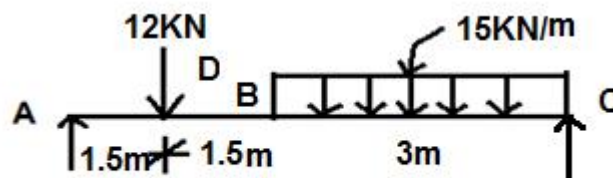

Fig. 3 Simply Supported Beam
15. Obtain the maximum deflection of the beam as shown in fig 3. Take 'EI' 10